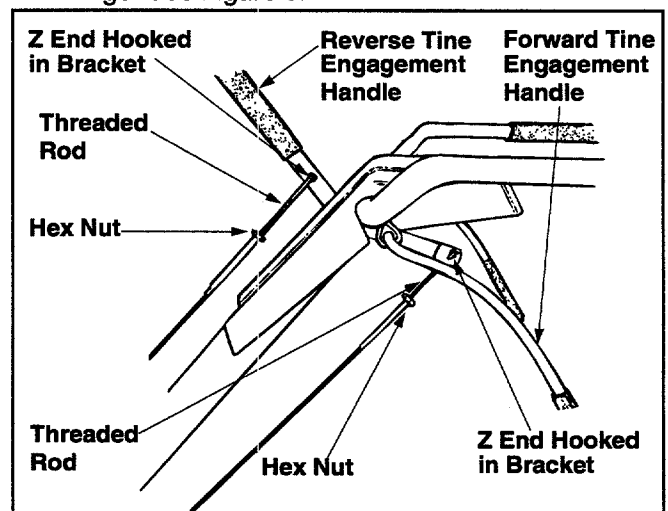

Figure 3
- Loosen the hex nut on the threaded rod near the end of the cable, and move it up the rod as far as it will go. See Figure 3.
- Thread the rod back into the cable until the cable is straight. Do not tighten it enough to put any tension on the spring. See Figure 3.
The reverse clutch cable is attached to the front of the tiller. Attach the end of the reverse cable to the reverse tine engagement handle above the handle assembly in the same manner as the forward cable. See Figure 3.